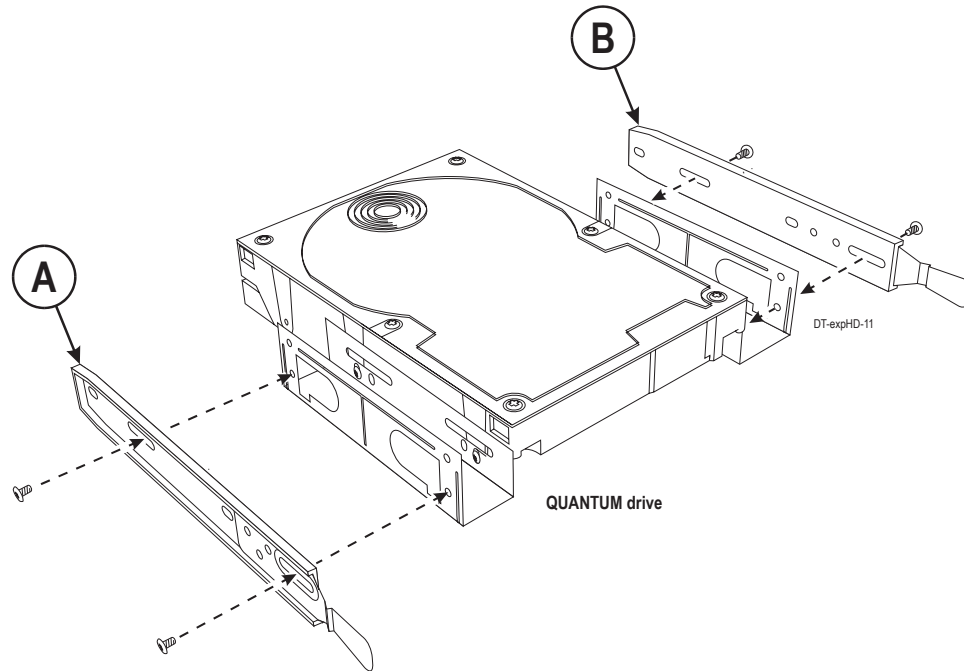

Figure 10
- Use screws to secure the outer two slides (parts A and B on Figure 10) to the bottom holes on the expansion hard drive U-brackets. See Figure 10.